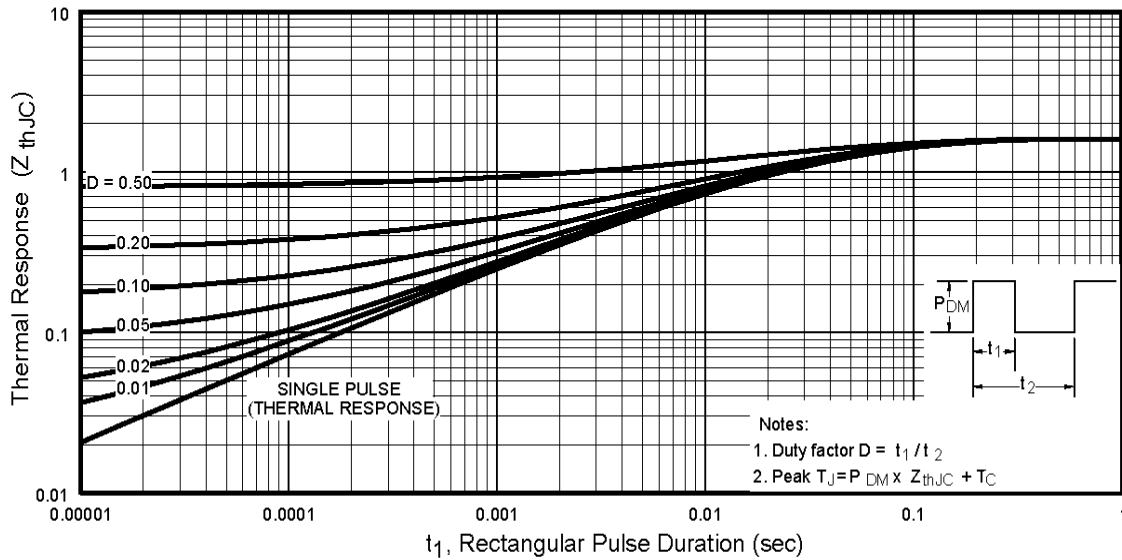

Fig 11. Maximum Effective Transient Thermal Impedance, Junction-to-Case
- ① Repetitive rating; pulse width limited by max. junction temperature. (See fig. 11)
- ② $V_{DD} = 25V$, starting $T_J = 25^\circ\text{C}$, $L = 4.9\text{mH}$